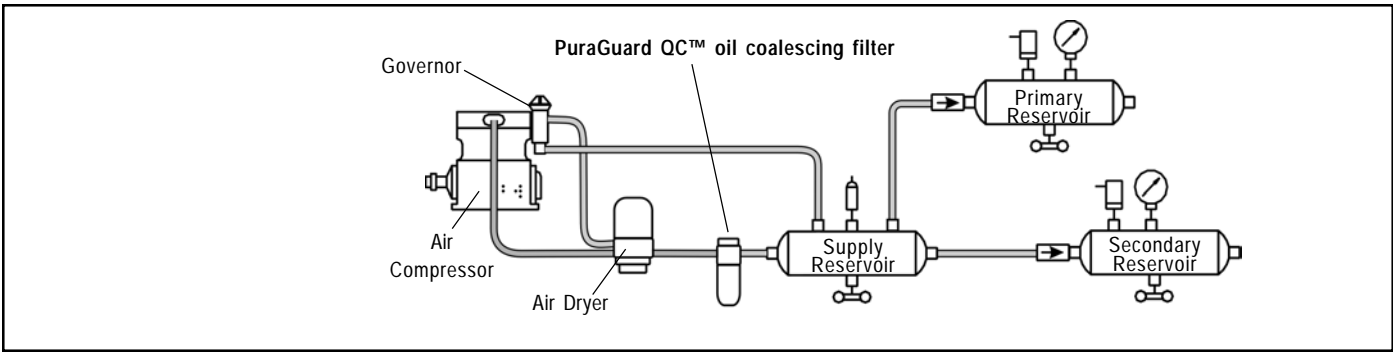

FIGURE 3 - PURAGUARD QC™ OIL COALESCING FILTER INSTALLATION SYSTEM WITH AIR DRYER
2. Locate it as close to the first (supply) reservoir as possible and upstream of the supply reservoir (see figure 3).